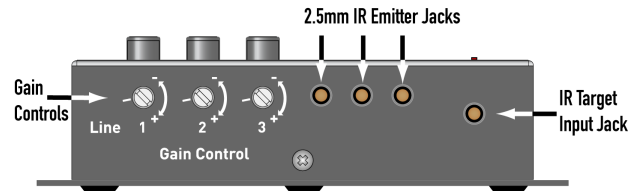

Figure 4
- Each set of RCA jacks has an associated Gain Control on the bottom of the module (see **Figure 4**), which can be used to adjust the amplitude of each line-level audio signal entering the Triple-Source Input. This is useful because the strength (amplitude) of line-level output signals often varies among audio components. By simply adjusting the gain of each signal you can achieve a balanced level among audio sources, ensuring consistent minimum and maximum volume in every room regardless of which audio source is selected.